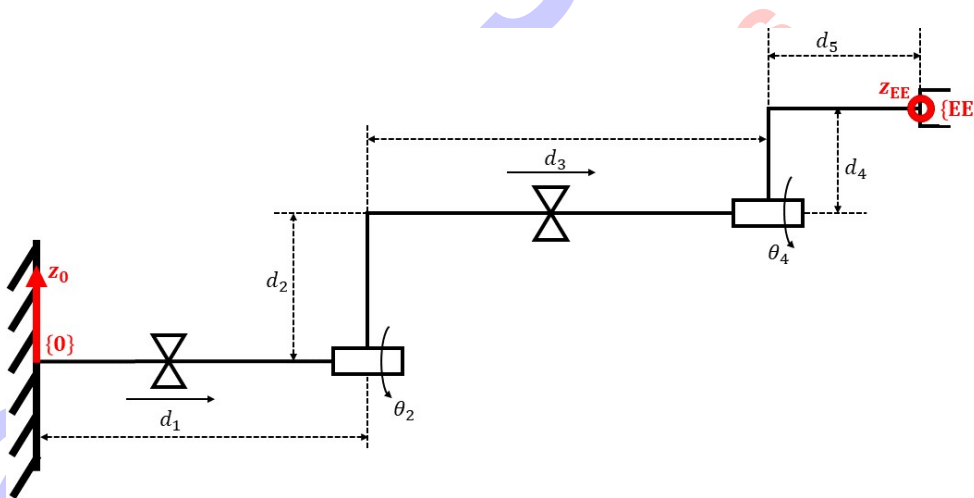

Figure 1.2: Schematic of a PRPR robot
b)\* Figure 1.2 shows a robot having its  $z_{EE}$  axis pointing outside the paper plane. Write the Denavit-Hartenberg table of the robot. Ensure maximal number of zeros in the table. Write the values for the rotational joint parameters as seen in the drawn configuration.